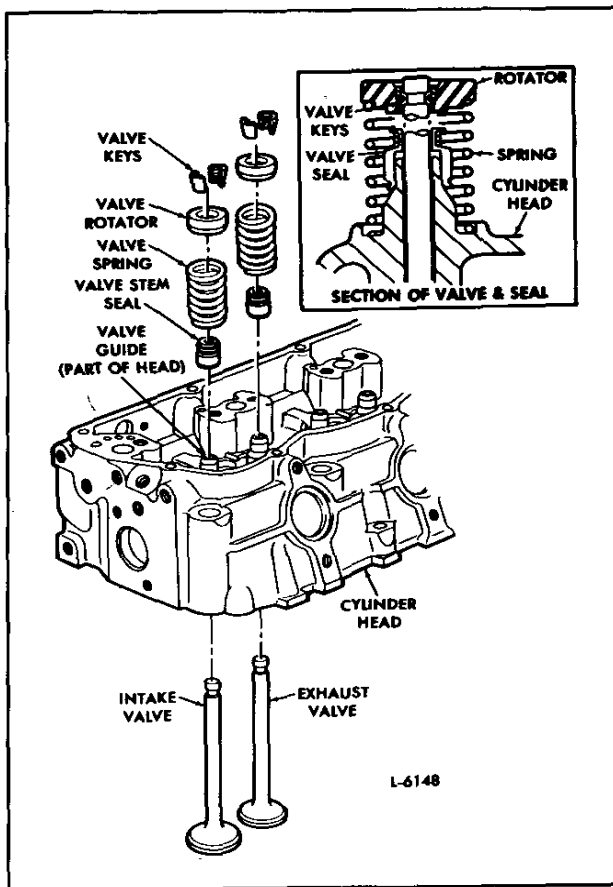

Fig. 5 - Valves and Relative Location of Parts
3. Refer to Fig. 5 and install the valve oil seals, on the valve guide bores using tool J 28612 as follows: